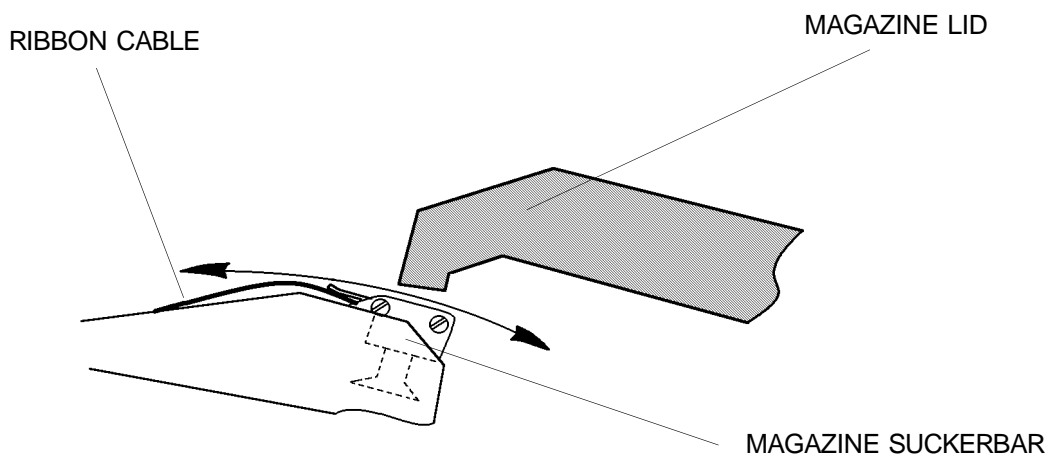

figure 14
**23.** Move the MAGZINE SUCKERBAR in and out. Check that the RIBBON CABLE does not touch the LID of the MAGZINE. See figure 14.